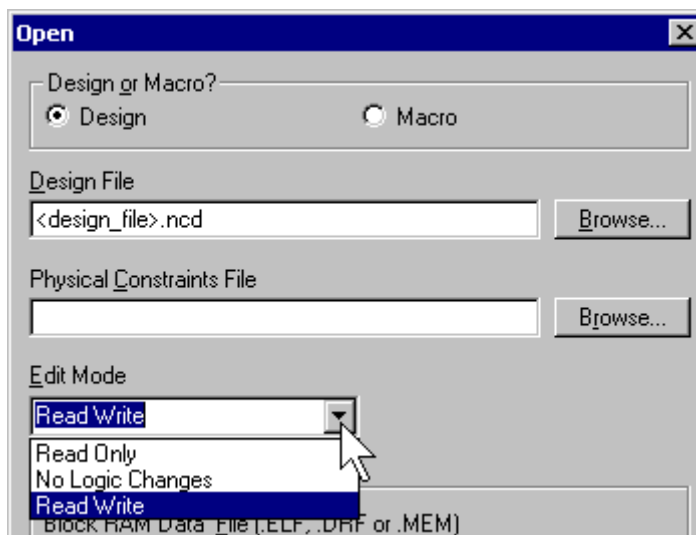

Figure 5: Enable User Editing in FPGA Editor
- Select **File → Open**. Select the *.ncd file for the completed design. Set the **Edit Mode** to "Read Write" mode as shown in Figure 5.